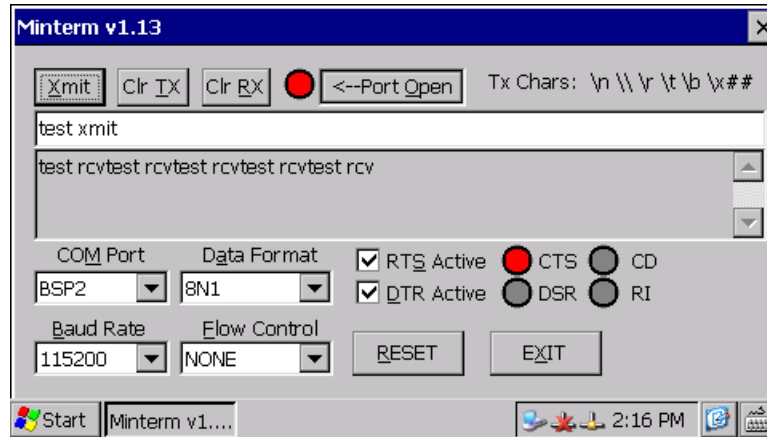

Figure 39
4. Select a new serial port from the COM Port drop-down list that starts with “BSP.” The Bluetooth Manager does not identify which index is assigned to the new virtual serial port (suffix). If this is the first Bluetooth serial port created on the device, the index is one, thus the desired port would be “BSP1.” You will need to use trial-and-error in MinTermCE to find the correct Bluetooth serial port because invalid ports cause an error. Figure 39 shows an active virtual serial port connection using MinTermCE.